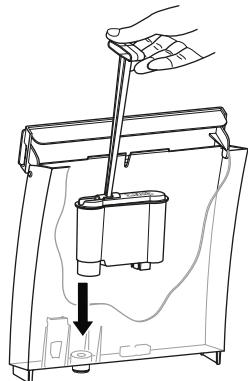
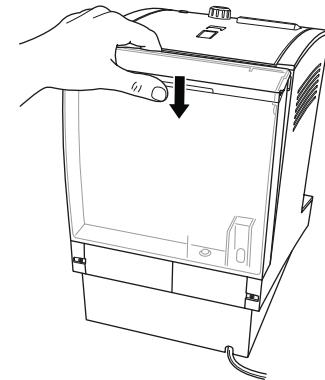

Fig. 2: Inserting the water filter
Fig. 3: Inserting the water tank
- 7. If desired, insert the "Limpid" water filter into the water tank (Fig. 2) the water tank with cold drinking water up to the „Max“ marking and insert it into the device (Fig. 3). Here, make sure that the water tank hooks into the top of the device and lies close against the device.